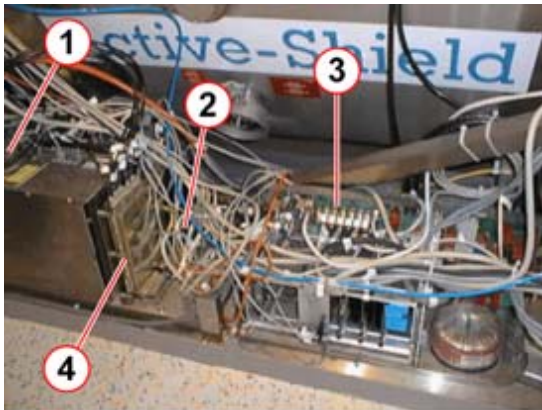

Fig. 4: Table electronic rack
- X1 and X2 at the connector plate (2/Fig. 4 / p. 14) between the table electronics and LCCS
- Restore the following connections (Fig. 4 / p. 14), (Fig. 5 / p. 14):